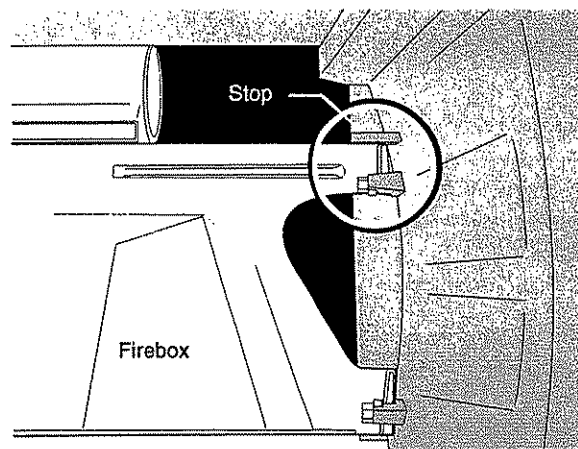

Figure 23. Correct firebox position.
2. Replace the firebox. Fig. 23.